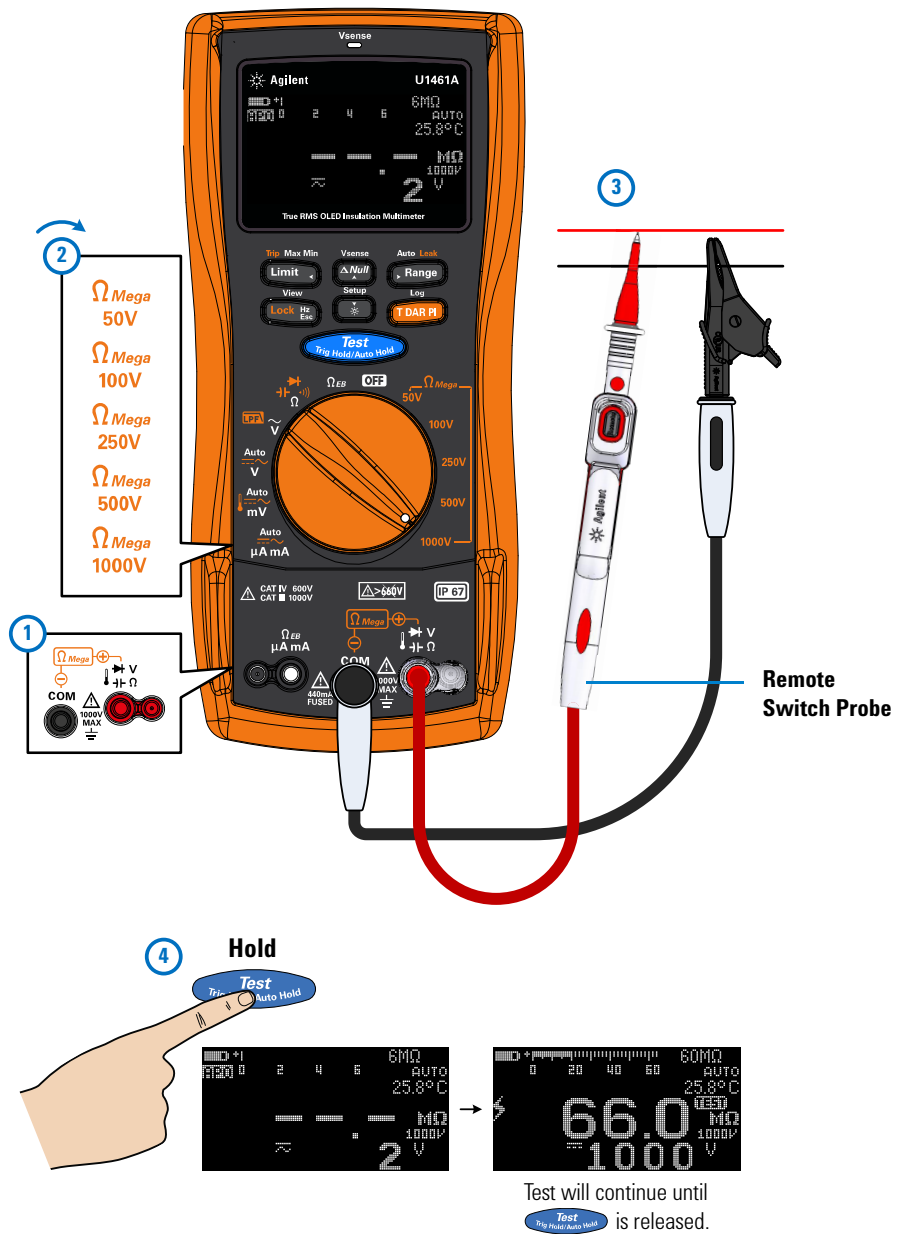

Figure 2-1 Insulation resistance test example
Set up your tester as shown in Figure 2-1. Set the rotary switch to a test voltage value that does not exceed the maximum voltage limitation of the circuit under test. Ensure that the device-under-test (DUT) is de-energized before performing any resistance measurement.
Use the timed test to obtain measurement results with consistent test times – for later comparisons. Set up your tester as shown in Figure 2-1, and follow the steps shown below.
Dielectric Absorption Ratio (DAR) is the ratio of the insulation resistance tested at 60 seconds to the insulation resistance tested at 30 seconds. Set up your tester as shown in Figure 2-1, and follow the steps shown below.
Polarization Index (PI) is the ratio of the insulation resistance tested at 10 minutes to the insulation resistance tested at 1 minute. Set up your tester as shown in Figure 2-1, and follow the steps shown below.
Set up your tester as shown in Figure 2-1, and follow the steps shown in Figure 2-5.